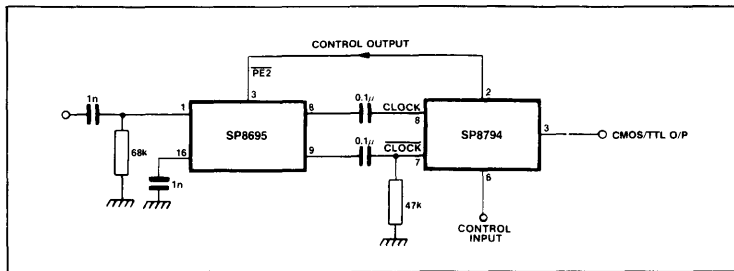

Fig. 5 Typical interfacing to suppress self oscillation with no input signal
5. When used as a controller the circuit will self-oscillate in the absence of an input signal. This can be prevented by connecting a 47k resistor from pin 7 to ground, as shown in Fig. 5.
6. The control output which includes an internal 16k pull-down resistor, is ECL compatible and interfaced directly with, for example, the SP8695. See Fig. 5.